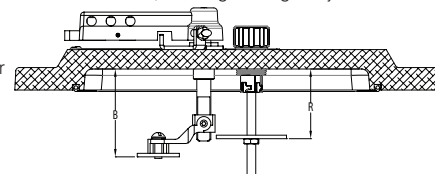

Figure 5
4. Attach the fork/fork plate assembly to circuit breaker/HMCP shaft as shown, and set the height per reference Table A4 and Figure 5. Once the height is in place, torque the set screw to 40 in.-lb (4.5 N-m). The fork plate should sit approximately 1/8"-3/16" (2.3-4.7mm) above the closest face of the circuit breaker.